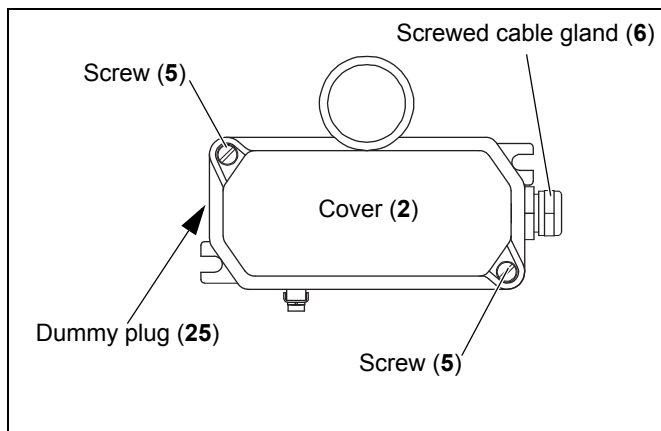

Fig. 5-8: Mounting the belt misalignment switch onto the conveyor
2. Open the cover (2) of the belt misalignment switch by loosening the two screws (5) (see fig. 5-8).